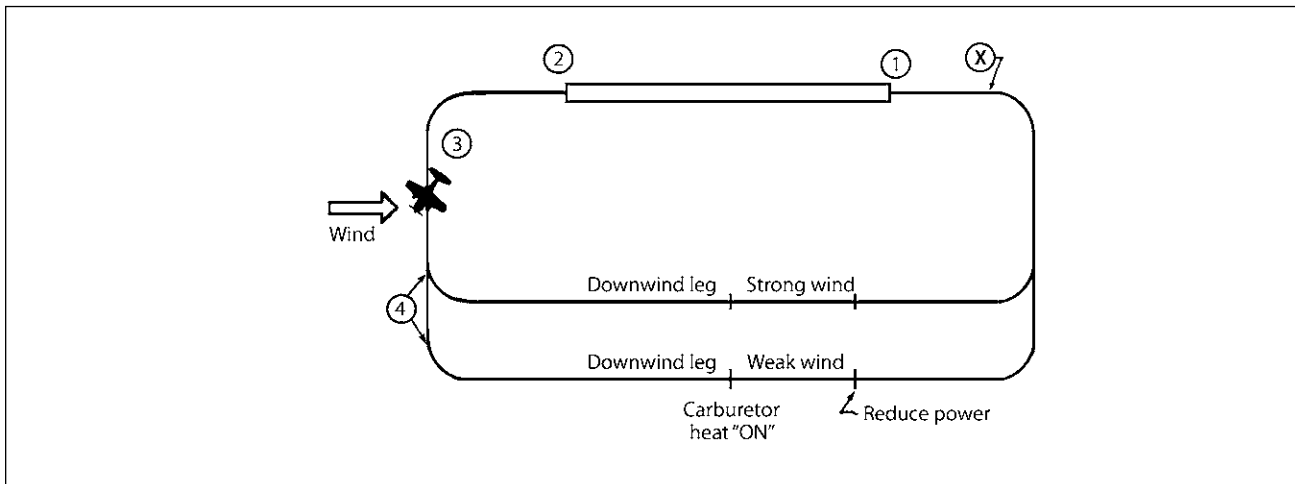

Figure 13-15. Varying the downwind leg position for different winds.
The best way to get an idea of what happens during a typical takeoff and landing pattern is to take it step by step (Figures 13-15 through 13-18).
4. Make the second 90°, left-climbing turn whenever it is necessary in order to establish the correct distance from the runway on the downwind leg. The principle of establishing a distance from the runway is this: If the wind is strong, the approach angle is steep on the final approach for a particular power setting; therefore, more altitude is needed at point X (Figures 13-15 and 13-16). Maybe you say, "Why not stay the same distance from the runway for every wind velocity and just make that first turn sooner?" It can be demonstrated that you will be critically low at the point of the final turn if the wind is strong and also you'll have no "straightaway" or final to establish yourself for the landing.